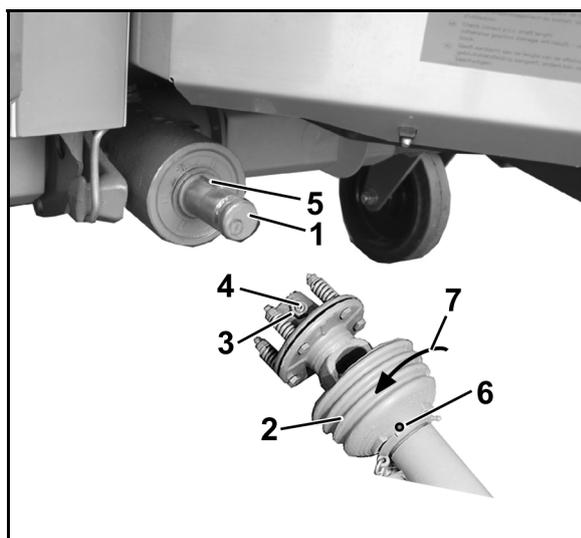

Fig. 36
2. Clean the gearbox input shaft (Fig. 36/1).
4. Remove the locking screw (Fig. 36/6).
5. Turn the PTO shaft guard (Fig. 36/2) into installation position (Fig. 36/7).
7. Release the lock nut (Fig. 36/3) in the connecting fork of the friction clutch (so that the setscrew no longer protrudes beyond the lock nut), unscrew the hexagon socket set-screw (Fig. 36/4) and check that the connecting fork can be easily fitted on the gearbox shaft.
Make sure the feather key (Fig. 36/5) is fully covered!
9. Secure the PTO shaft against axial movement. Firmly tighten the setscrew with a hexagon socket wrench and lock with nut (Fig. 36/3).
2. Unscrew the lock nuts (Fig. 36/3) in the connection fork from the friction clutch. Remove the setscrew (Fig. 36/4).